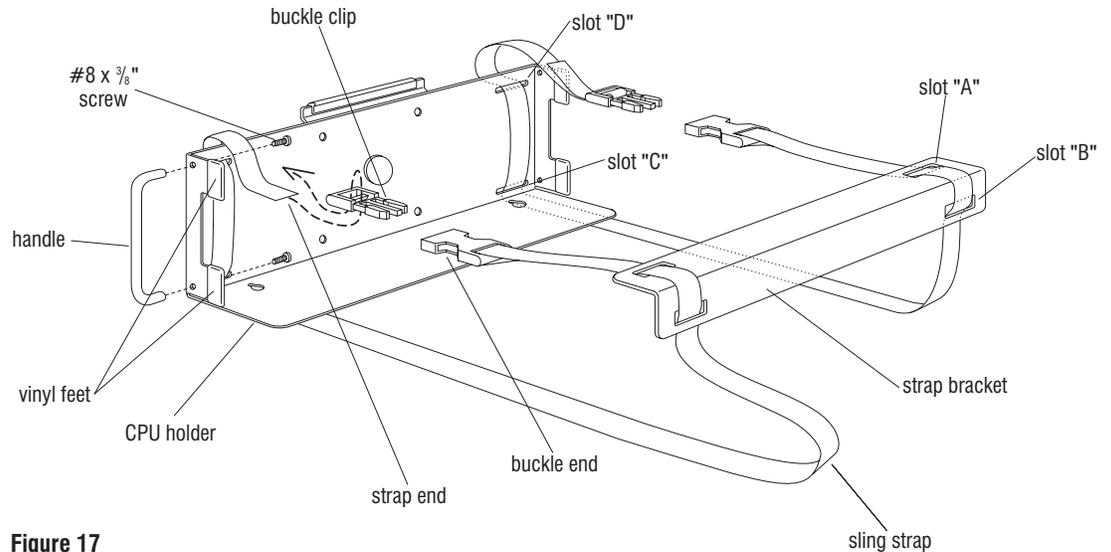

Figure 17
1. Lay the CPU holder and strap bracket out as illustrated in Figure 17. First route the "end" of the sling strap through slot "A" and slot "B" in the strap bracket, and pull buckle end to within a few inches of slot "A". Next route the strap end through slots "C" and "D" in the CPU holder as shown. Finally, following the arrow, route the strap end through the buckle clip. Follow the above procedure for the other sling strap (Figure 17).
2. Secure the handle to the CPU holder with two #8 x $\frac{3}{8}$ " screws at the two holes located above the vinyl feet (Figure 17).
3. To mount the CPU to the CPU holder, first set the CPU onto the straps and strap bracket as shown. Position the CPU holder onto the top of the CPU with the vinyl feet resting against the top of the CPU. The front vinyl feet (at handle end) must set just behind the front bezel on the CPU (Figure 17).
4. Be sure the straps are wrapped around the CPU as illustrated. Snap the buckle together. Hold the CPU securely and pull up forcefully on the strap ends to tighten. The straps must be pulled tight to secure, and periodic re-tightening may be required (Figure 17).
5. Determine the correct location to mount the track under the worksurface. The track must be positioned square to the front edge of the worksurface and set back from the front edge to obtain a desirable retraction position for your CPU. Use the track as a template and mark all eight of the hole locations on the underside of the worksurface (Figure 17).